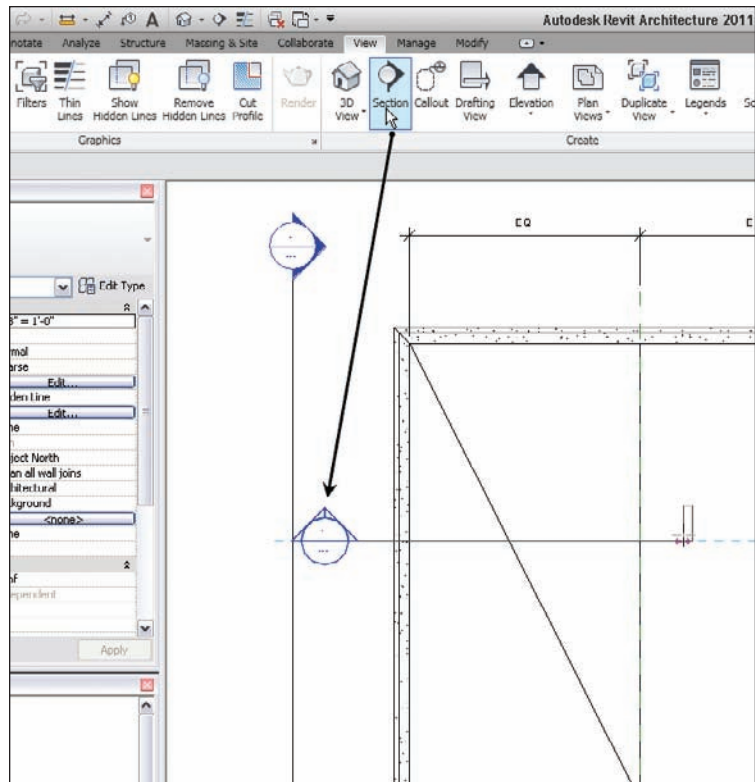

FIGURE 7.17 Adding a section through the roof at this point.
2. Add a section through the roof, as shown in Figure 7.17.